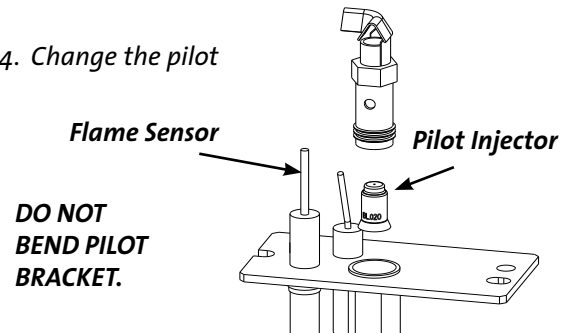

Figure 24. Change the pilot injector.
- Use the 7/16" wrench to remove the pilot head. **Grasp the pilot bracket with pliers or vice-grips to prevent it from bending out of alignment.** See fig. 24. Remove the original pilot injector from the base and install the new injector oriented as shown.